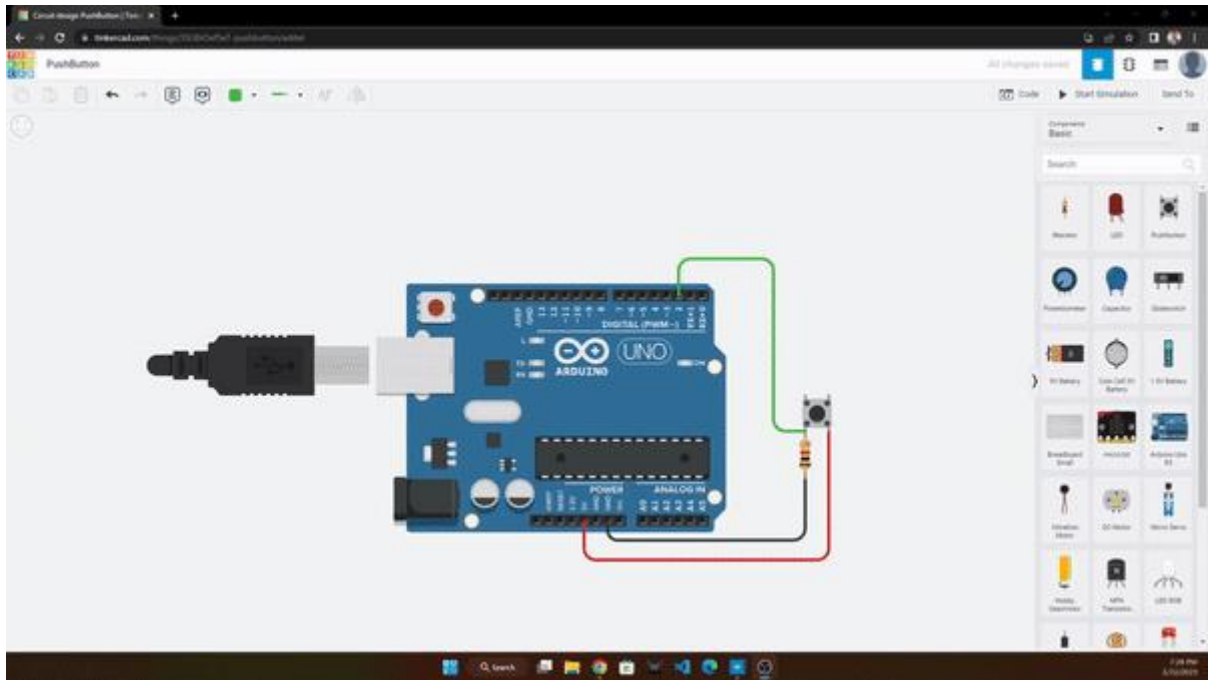

Fig.2.23(i): Push Button Circuit
- This circuit helps in understanding digital input interfacing using switches and buttons (Fig.2.23).